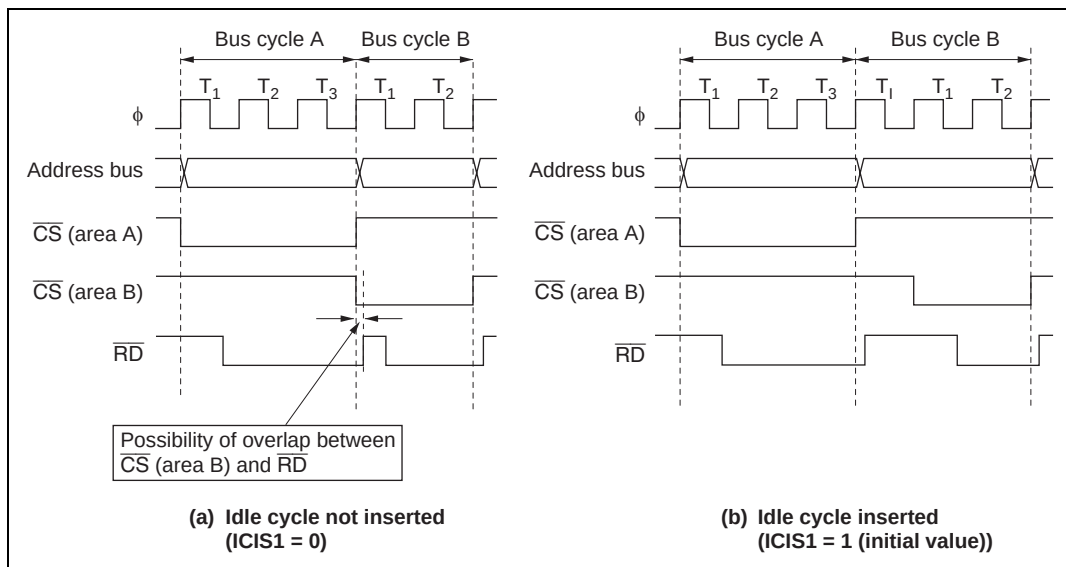

**Figure 6.18 Relationship between Chip Select ( $\overline{CS}$ ) and Read ( $\overline{RD}$ )**
**Relationship between Chip Select ( $\overline{CS}$ ) Signal and Read ( $\overline{RD}$ ) Signal:** Depending on the system's load conditions, the  $\overline{RD}$  signal may lag behind the  $\overline{CS}$  signal. An example is shown in figure 6.18.